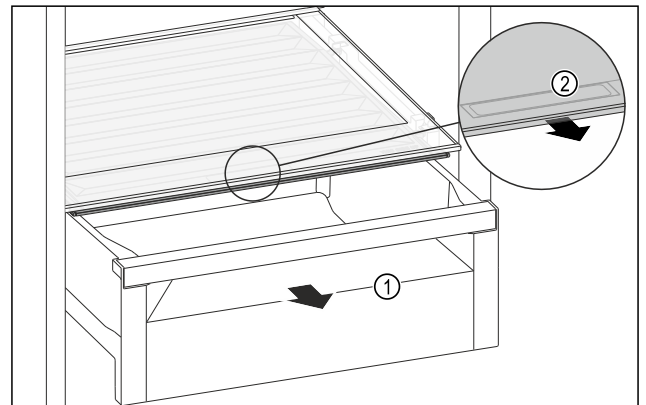

Fig. 212
- Pull out the drawer Fig. 212 (1).
- Grasp the recessed grip Fig. 212 (2) on the compartment lid and pull the compartment lid forwards at the same time.